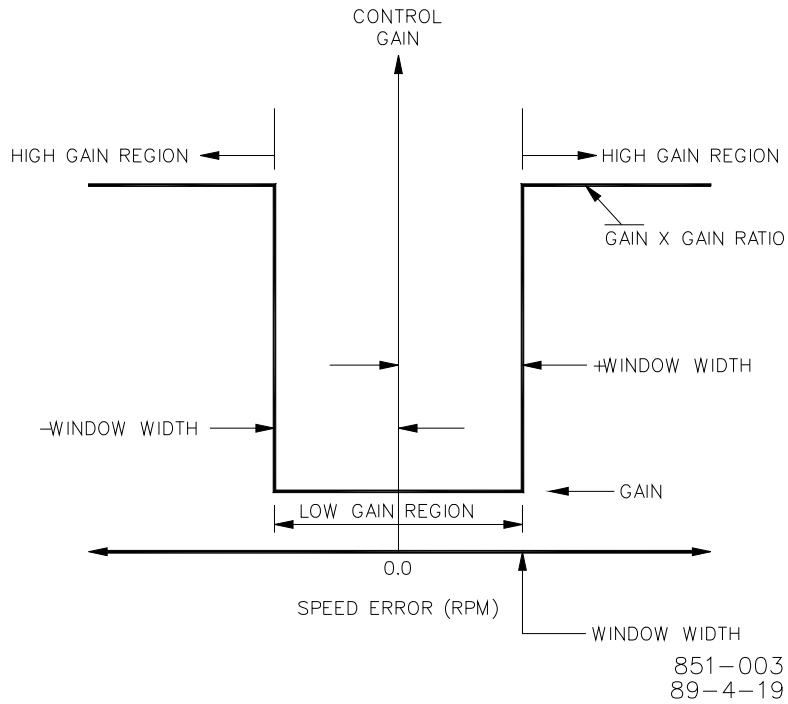

Figure 3-2. Control Gain as a Function of Speed Error
The following descriptions of each menu item apply to either set. Also see Figures 3-2, 3-3, and 3-4.
4. **GAIN RATIO** is the ratio of the Gain setting at steady state to the Gain setting during transient conditions. The Gain Ratio operates in conjunction with the Window Width and Gain adjustments by multiplying the Gain set point by the Gain Ratio when the speed error is greater than the Window Width. This makes the control dynamics fast enough to minimize engine-speed overshoot on start-up and to reduce the magnitude of speed error when loads are changing. This allows a lower gain at steady state for better stability and reduced steady-state actuator linkage movement. (See Figure 3-2.)
5. **WINDOW WIDTH** is the magnitude (in rpm) of a speed error at which the control automatically switches to fast response. The control uses the absolute value of speed error to make this switch. A Window Width too narrow will result in cycling that always factors in the Gain Ratio. (See Figure 3-2.)